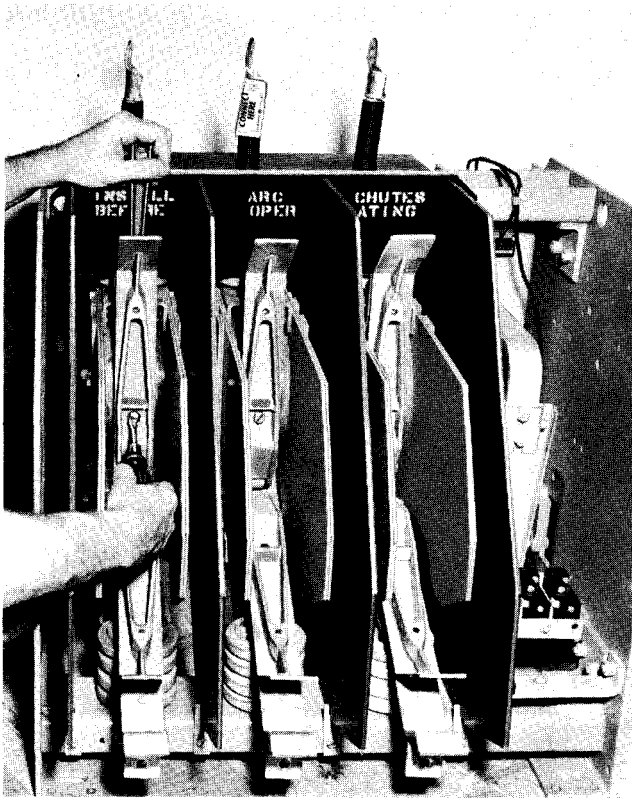

Fig. 7. View showing method of removing upper arcing horn.
2. See Fig. 7. Using a long (14-inch) screwdriver or 9/16-inch socket wrench, remove the front bolt holding the upper arcing horn. Using an open-end 1/2-inch wrench, remove the bolt at the back, and remove the upper arcing horn.